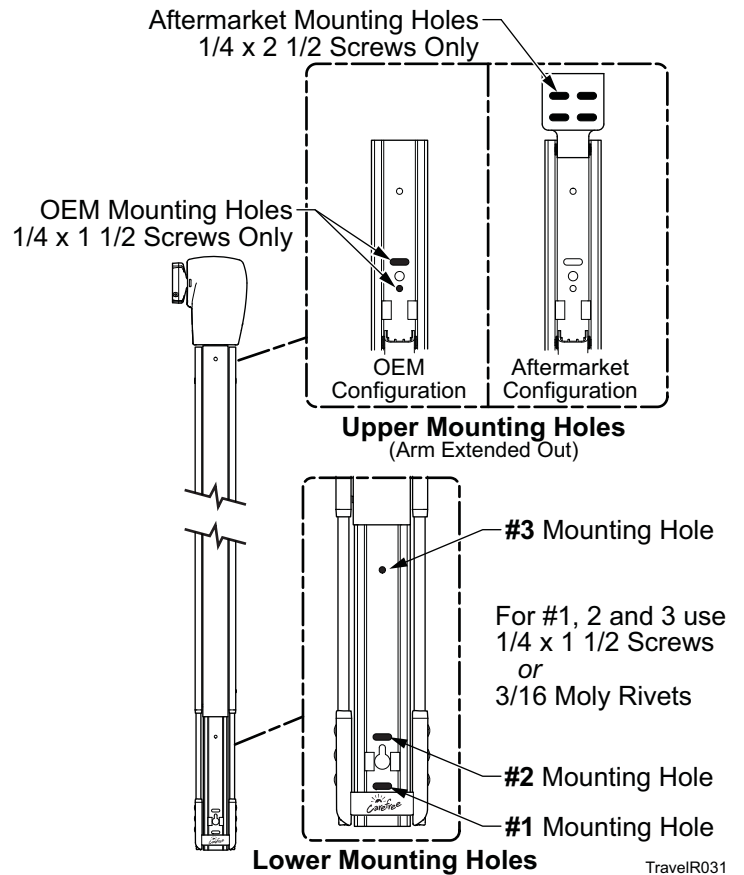

Figure 8. Arm Mounting Hole Locations.
7. Confirm that the arm is perpendicular to the awning rail, attach the arm through the #1 mounting hole (shown in Figure 8) using a 5/32" pilot hole and a 1/4 x 1-1/2" lag screw.
10. Check the alignment; the arm assembly must be perpendicular to the roller assembly. When the alignment is correct, drill and attach the arm through the #1 mounting hole (shown in Figure 8) using a 5/32" drill bit and a 1/4 x 1-1/2" lag screw.